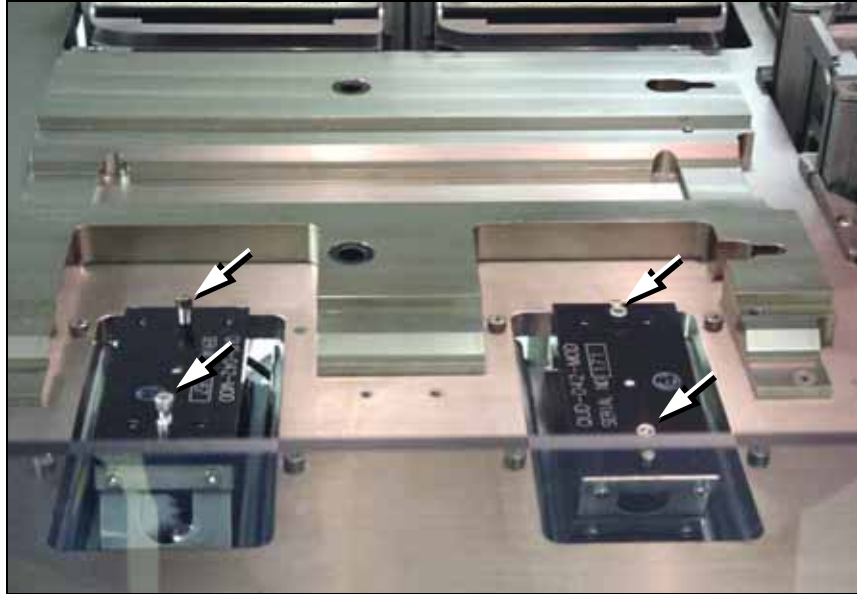

Figure 2-12: Vibrator motors Vib1, on the left, and Vib2, right. Arrows point to screws for attaching tube platforms.
- 2a. Open the front safety shield and install the input tube loader platform onto the input Vibrator Motor 1 (Vib1) on the left side of the workspace. See Figure 2-12.
- 5a. Install the output tube unloader platform onto the output Vibrator Motor 2 (**Vib2**) on the right side of the workspace. Vibrator Motor 2 is shown in Figure 2-12.